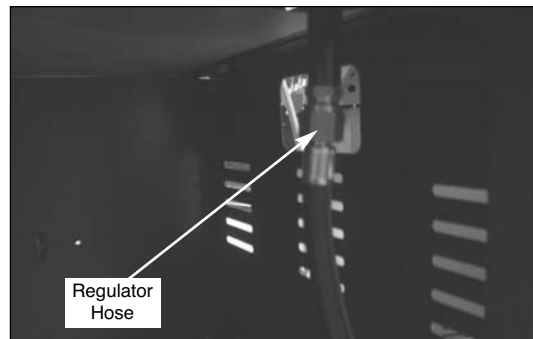

Fig 2
2. Use a 3/4" wrench disconnect the other hose from the manifold. (See Fig. 2)